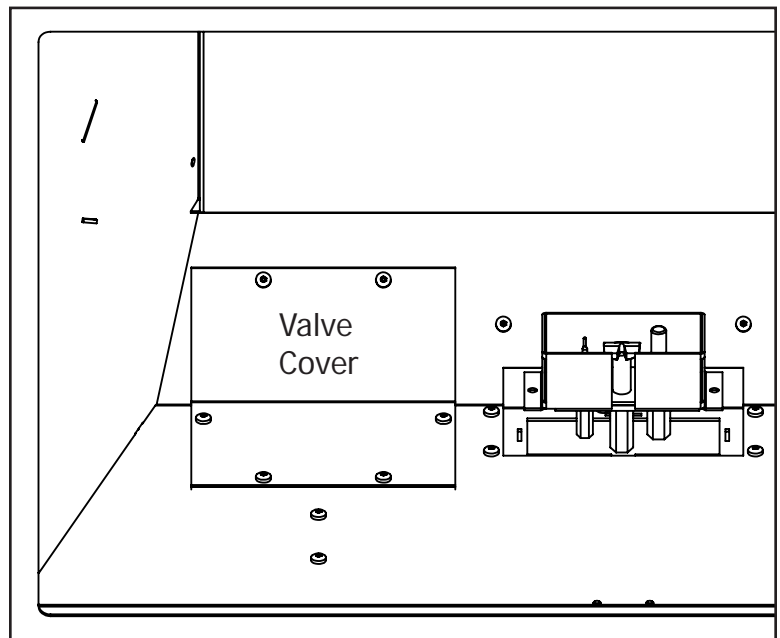

Figure 9: Valve Cover
3. Use a T-20 screwdriver to remove the six screws that hold the valve cover in place (pointed out in Figure 9).